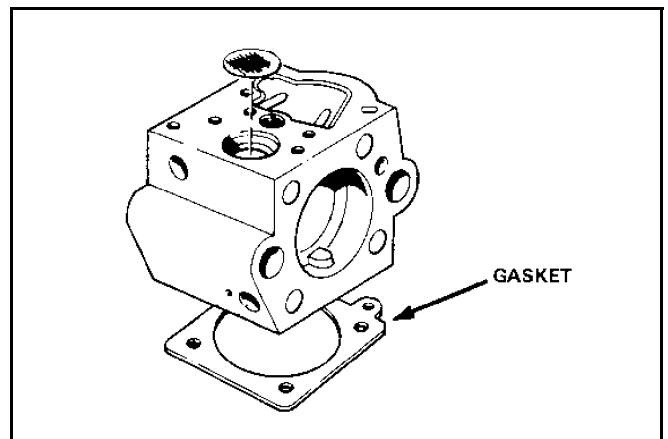

Figure 213
5. Install the metering diaphragm gasket over the locating pins on the carburetor body (Figure 213).